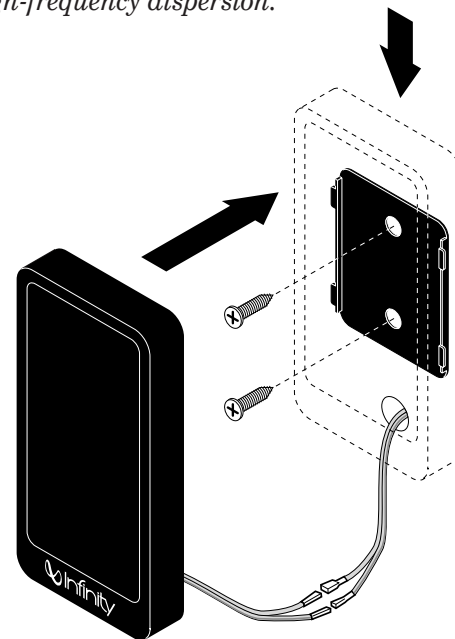

Figure 2. After installing the surface-mount plate, slide the Kappa EMIT-N MK II Tweeter down on the plate to lock in place.
4. Carefully align the openings on the back of each tweeter with the tabs on the surface-mount bracket. Slide each tweeter down on its plate to lock it into place, as shown in Figure 2.